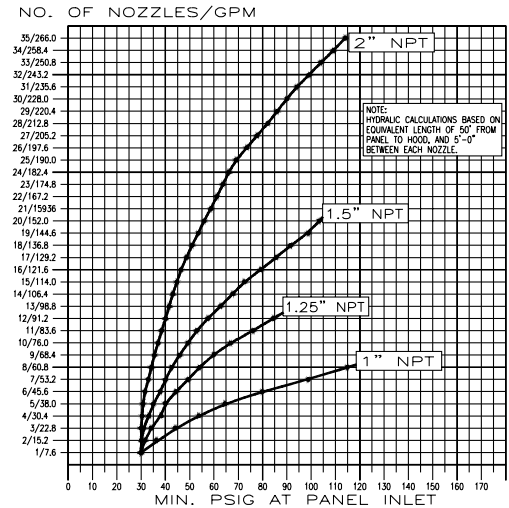

fig. 1
Pipe size is determined by the quantity of sprinklers required. [See Pipe Sizing Guide, paragraph 5.0, figure 1]
Refer to Pipe Sizing Guide, paragraph 5.0 [figure 1] to determine the volume of water required. We recommend that the building sprinkler contractor review plans to ensure that adequate water volume will be supplied.
5.0. Pipe Sizing Guide (Fig. 1)